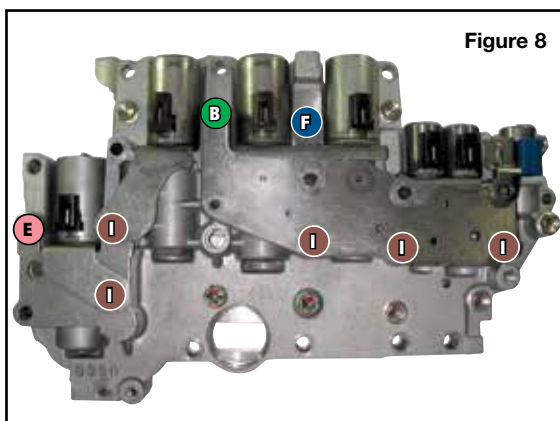

Figure 8
- Remove eight indicated bolts (**Figure 8**), solenoid brackets, solenoids, small and large cover plate.
- Reinstall the solenoid brackets, solenoids, small and large cover plate and eight bolts (**Figure 8**).